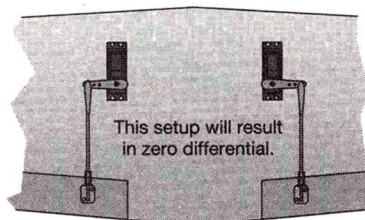

Figure 4A.
• **Differential via splined servo-output shaft.** You can adjust differential by changing the orientation of the servo arm by rotating it to a different position on the splined servo-output shaft. Again assuming that the horn is on the bottom of the control surface, Figure 4A shows the servo arm position with no differential, 4B